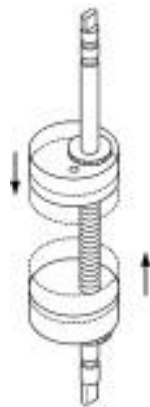

Figure 5
2. Place the actuator in the clock-wise (CW) position and connect to the fieldbus segment.
3. Push down on the top cam until it clears the splined coupler, rotating clockwise until the CW LED is illuminated (Figure 5).
6. Pull up on the lower cam until it clears its splined coupler, rotating counter-clockwise until the CCW LED is illuminated (Figure 5).